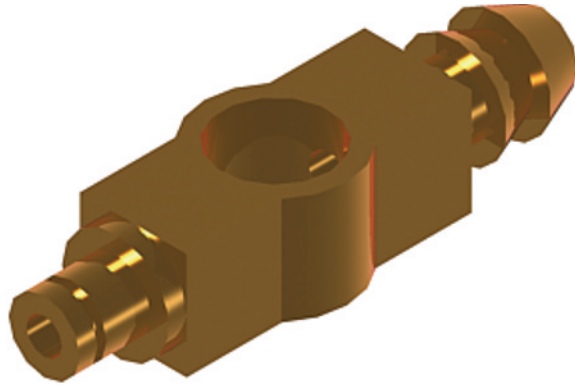

Fig. 18.24 Second example of 3D models
Second example (Fig. 18.24)
- Render (Fig. 18.24).